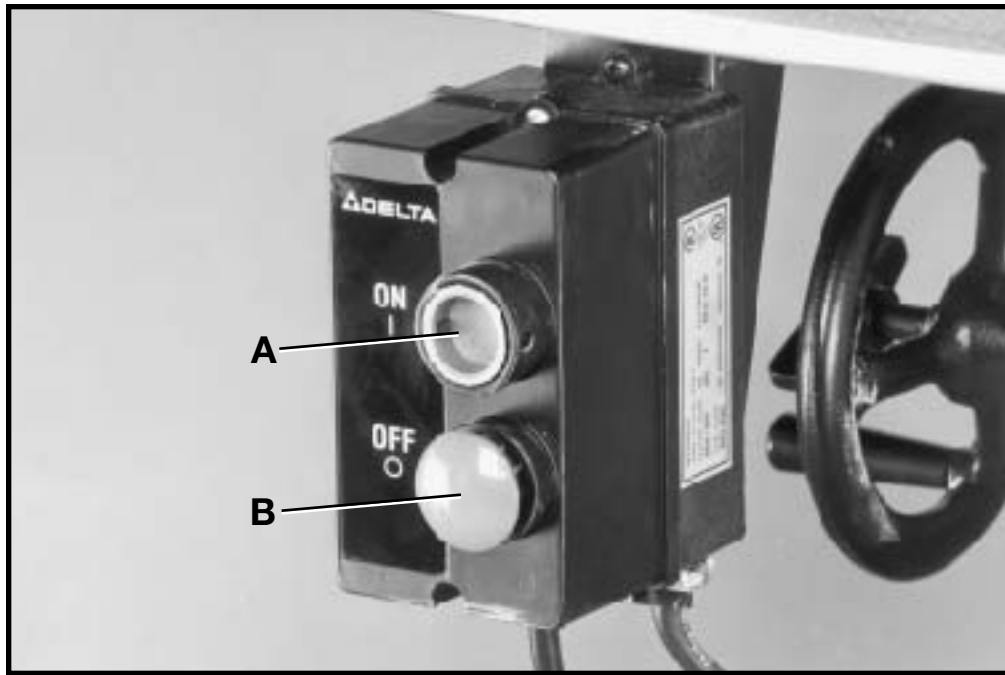

Fig. 52
To apply power to the machine, push “ON” button (A) Fig. 52. To stop the machine, push “OFF” button (B).